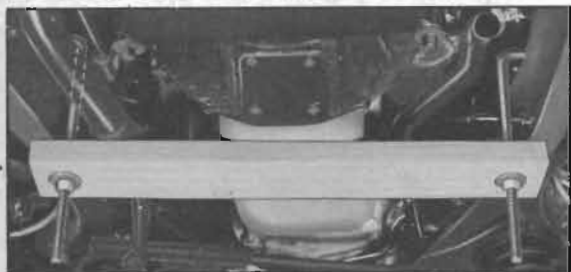

Figure 4-72—Engine Support Bar and Hooks in Place (See Fig. 4-25 for details of bar and hooks)
10. Install engine support bar under rear end of lower crankcase. Place left side hook over frame to rear of brake master cylinder. Snug the nuts up evenly on both hooks. See figure 4-72.